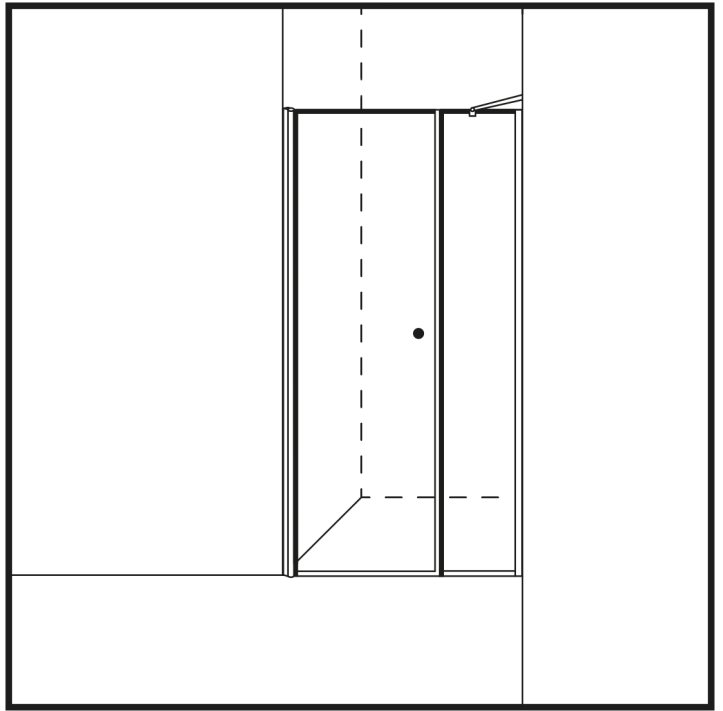

Figure 18
46. Remove the blocks from under the glass. (Figure 18)